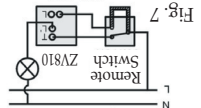

Fig. 7
- To replace a 2 way switch please refer to Fig. 7 for wire a link to the remote switch.
2. When the sensor switch is in a two way circuit (See Fig. 7), the remote switch acts as a momentary switch. It can only trigger the sensor switch to turn the lights when the slide switch is set to the "AUTO" position. Thus, the two-way circuit will be controlled by the sensor switch.